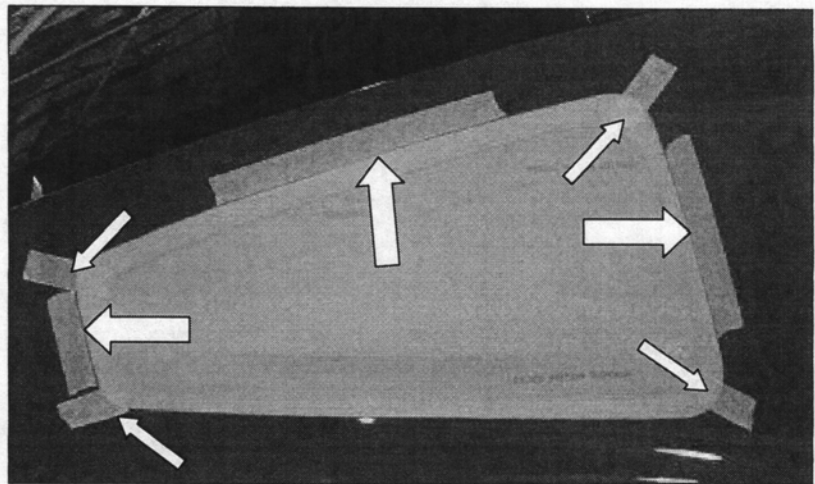

Figure 6
4. Position the Template over the right quarter window with the hash marks of the template centered in the dot matrix of the quarter window black-out. Refer to Figure 6. Note: Using a light source inside the car will highlight the dot matrix and ease template positioning.
5. Using masking tape, attach the template to the vehicle body at the four (4) corners. Refer to the small arrows in Figure 6.
6. Using masking tape as louver guides, apply three (3) pieces of masking tape to the vehicle body adjacent to the template at the top edge, front edge and rear edge. Refer to the large arrows in Figure 6.